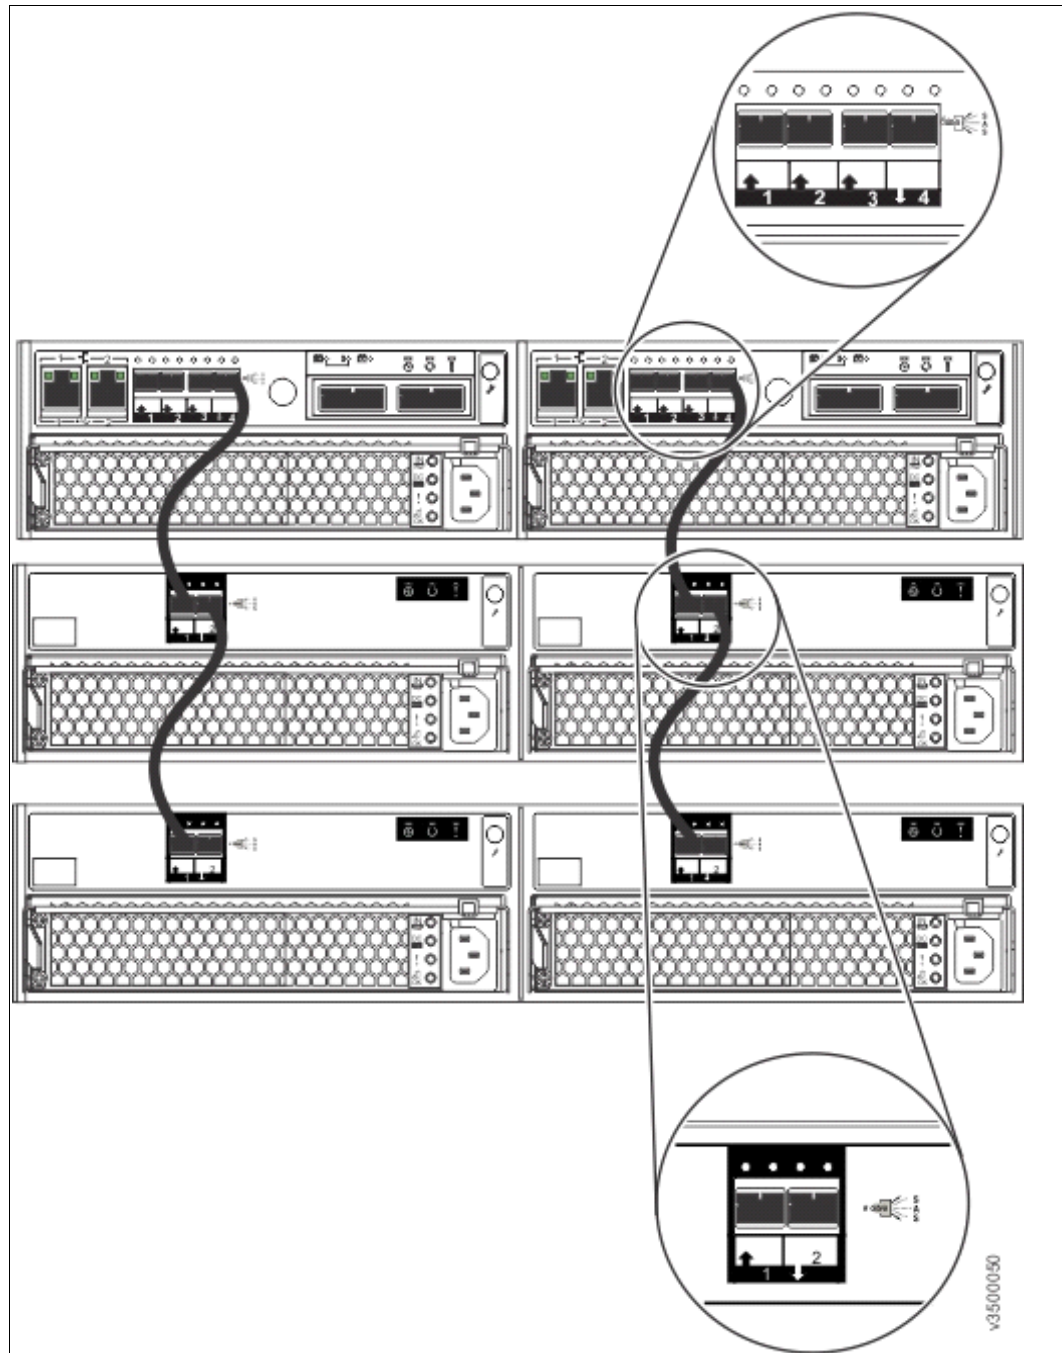

Figure 2-1 Connecting the SAS cables example
- A minimum of four Fibre Channel (FC) ports attached to the fabric are required, but it is a best practice to use eight 2-, 4-, or 8- Gbps Fibre Channel ports
- One single 1-, 3-, or 6-meter SAS cable per expansion enclosure is required. The length of the cables depends on the physical rack location they are installed in relative to the control enclosure or other expansion enclosures. Locate the control enclosure so that up to four enclosures can be located below, as shown in Figure 2-1.